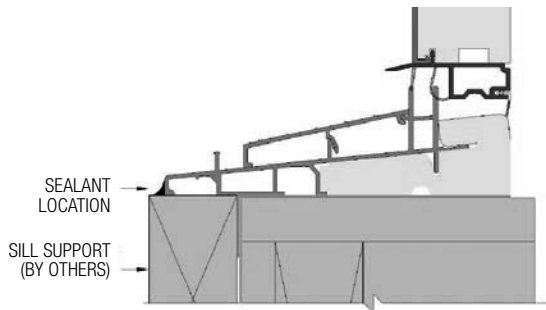

FIG. 15: STANDARD DOOR SILL
- B) Attach a sill support block beneath the sill. Apply a bead of sealant at the nose of the sill and support block. (Fig. 15 & 16)